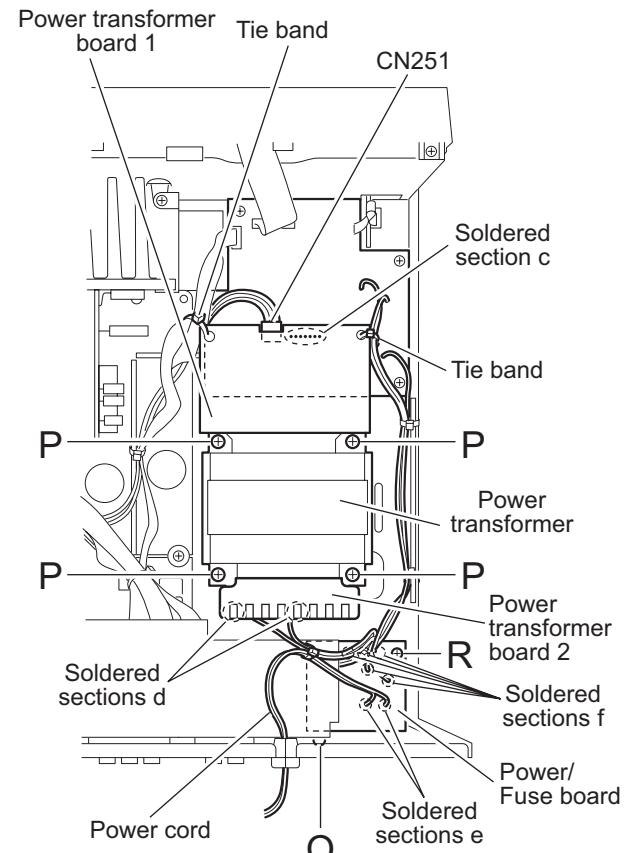

Fig.15
2.12 Removing the power transformer (See Fig.15)
2.13 Removing the power/fuse board (See Fig.15)